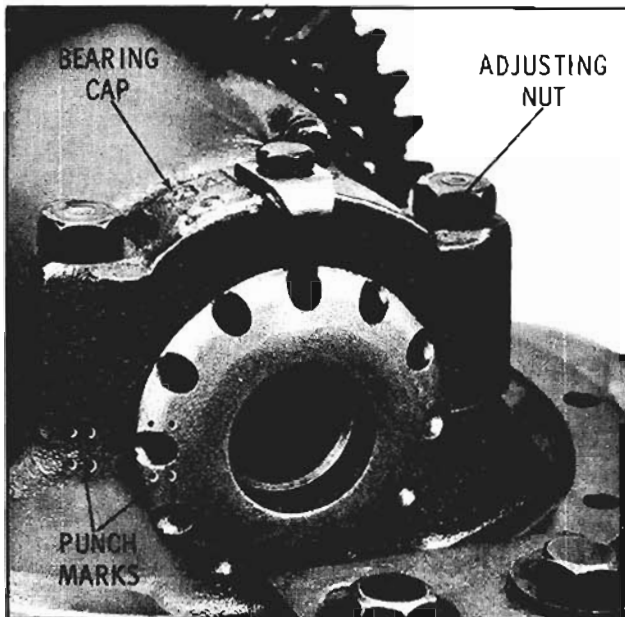

Fig. 10-15 Adjusting Nut Markings
3. Mark the right side bearing adjusting nut, bearing cap, and carrier with two punch marks as shown in Fig. 10-15, also mark the left side in the same manner using one punch mark. These marks will serve for location and adjusting purposes when rebuilding differential with the original gear set.